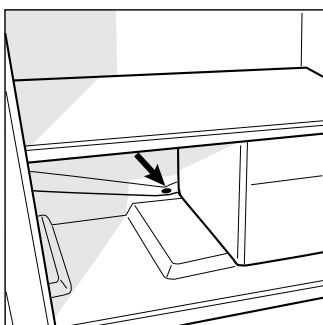

Fig. 7
This appliance defrosts automatically, and the water is ducted to the back of the appliance by a special outlet (fig. 7) where the heat produced by the compressor makes it evaporate. The only thing you must do is to periodically check and clean the hole of the drain, which is located behind the fruit and vegetable crispers, so that the water drains properly.
- The defrost drain is clear from any blockage (fig.7).